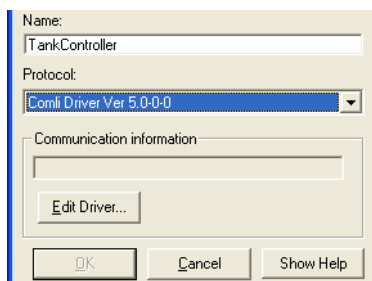

Figure 17. Selected Communication Protocol
6. Select the protocol to use for communication with the controller, see also Figure 17.